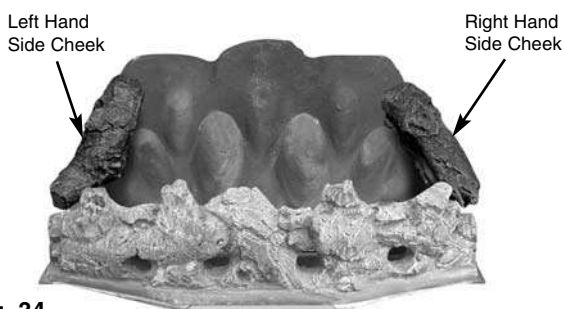

Fig. 34
3. Following Figs. 34 to 42, place the loose logs on to the fuel bed. It is important that the logs 'nest' together and sit on top of the fuel bed peaks.